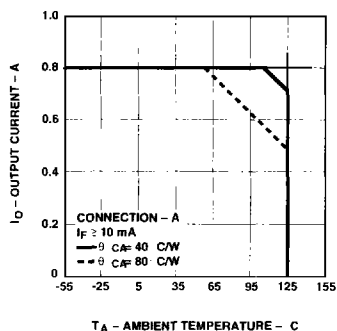
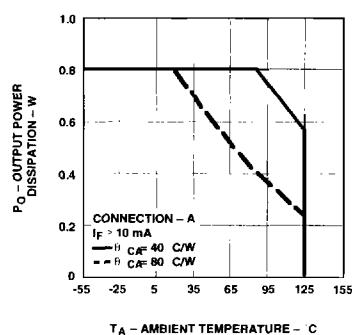

Figure 2. Maximum Average Output Current Rating vs. Ambient Temperature.
Figure 4. Output Power Rating vs. Ambient Temperature.
Average Output Current – Figure 2
Average Output Power Dissipation – Figure 4	800 mW ⁽²⁾
- For rating, see Figure 4. The output power P_{O} rating curve is obtained when the part is handling the maximum average output current I_{O} as shown in Figure 2.
IN ORDER TO DETERMINE V_{OUT} CORRECTLY, THE CASE TO AMBIENT THERMAL IMPEDANCE MUST BE MEASURED FOR THE BURN-IN BOARDS TO BE USED. THEN, KNOWING θ_{CA} , DETERMINE THE CORRECT OUTPUT CURRENT PER FIGURES 2 AND 4 TO INSURE THAT THE DEVICE MEETS THE DERATING REQUIREMENTS AS SHOWN.
Rating curves are shown in Figures 2 and 4. Figure 2 specifies the maximum average output current allowable for a given ambient temperature. Figure 4 specifies the output power dissipation allowable for a given ambient temperature. Above 55°C (for $\theta_{CA} = 80^\circ\text{C/W}$) and 107°C (for $\theta_{CA} = 40^\circ\text{C/W}$), the maximum allowable output current and power dissipation are related by the expression $R_{SS} = P_O(\text{max}) / (I_O(\text{max}))^2$ from which R_{SS} can be calculated. Staying within the safe area assures that the steady-state junction temperatures remain less than 150°C. As an example, for $T_A = 95^\circ\text{C}$ and $\theta_{CA} = 80^\circ\text{C/W}$, Figure 2 shows that the output current should be limited to less than 610 mA. A check with Figure 4 shows that the output power dissipation at $T_A = 95^\circ\text{C}$ and $I_O = 610$ mA, will be limited to less than 0.35 W. This yields an R_{SS} of 0.94 Ω .